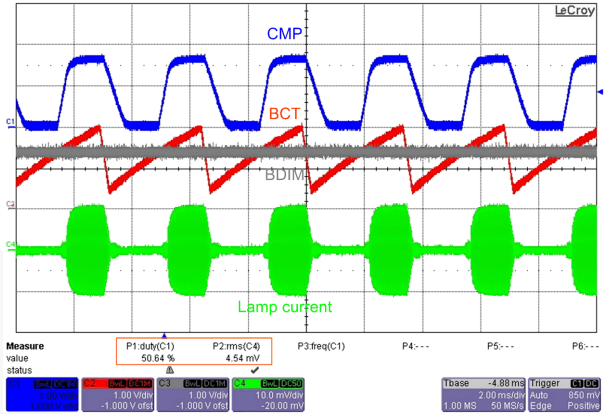

Figure 40. Burst Dimming Waveforms
**Burst Dimming:** Lamp intensity is controlled with the BDIM signal over a wide range. When BDIM voltage is lower than BCT voltage, the lamp current is turned on; 0V on BDIM commands full brightness. The duty cycle of the PWM pulse determines the lamp brightness. The lamp intensity is inversely proportional to BDIM voltage. As BDIM voltage increases, the lamp intensity decreases. Figure 40 shows the lamp current waveform vs. DIM in negative burst dimming mode.